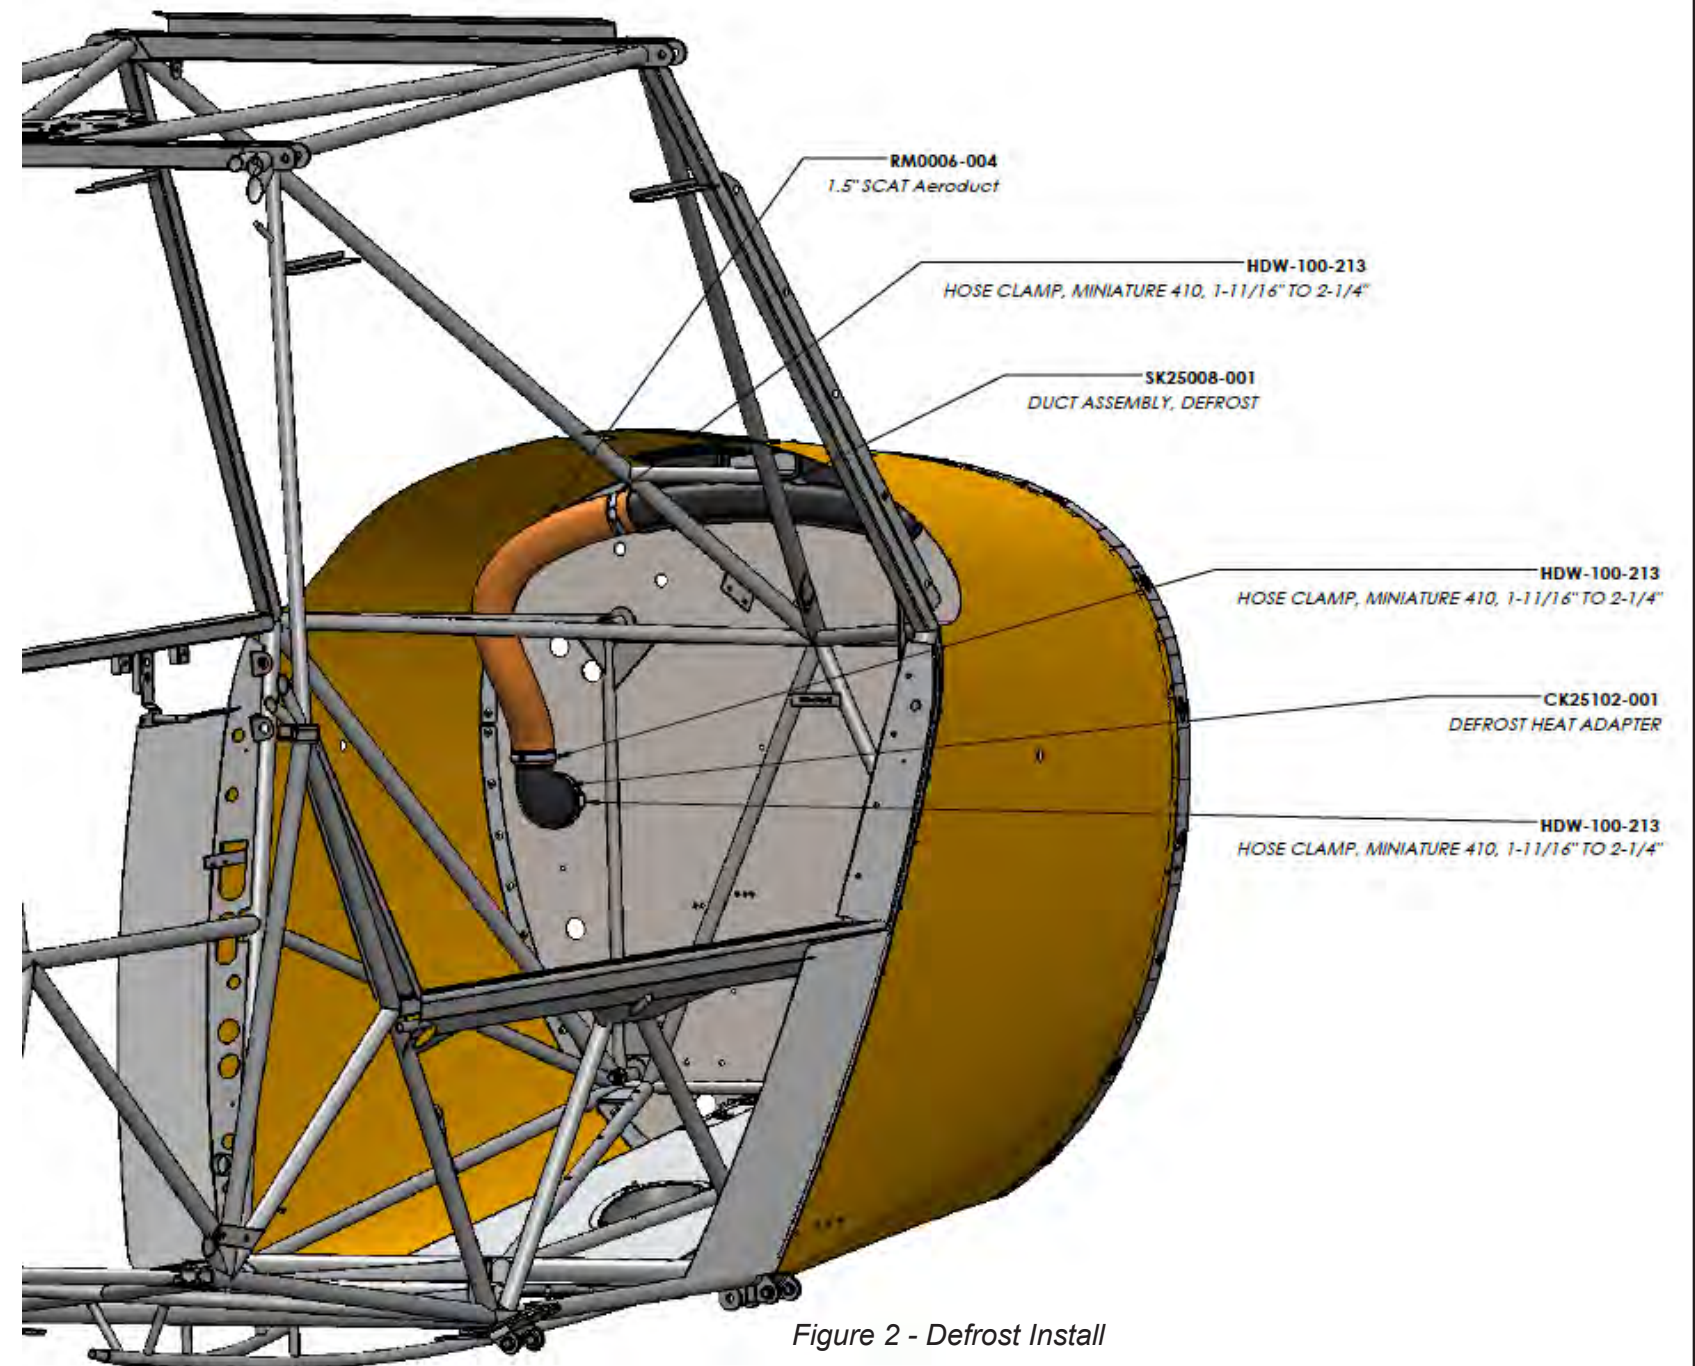

Figure 2 - Defrost Install
- Connect ducting as shown in Figure 2.